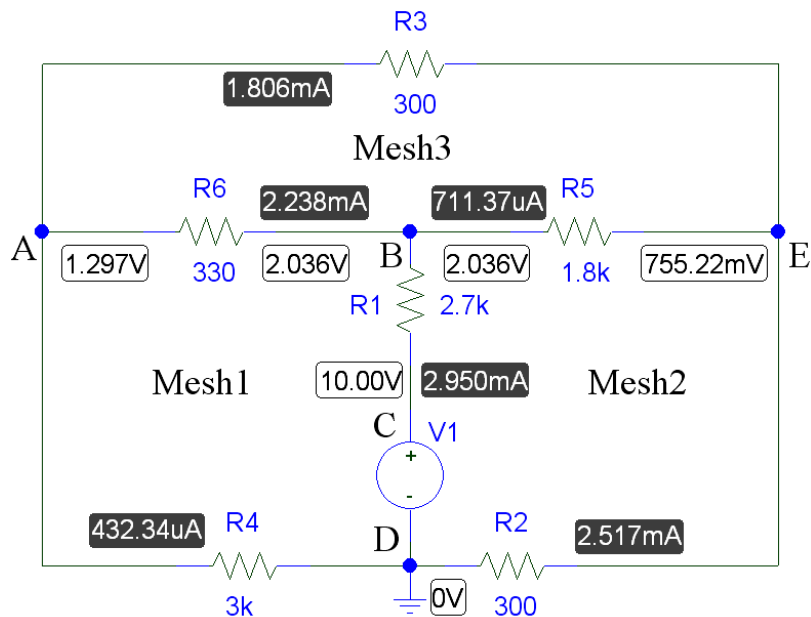

Figure 2-1
2. Construct the circuit shown in **Figure 2-1**
1. Measure the branch currents entering node A by placing ammeter as shown in **Figure 2-1**.